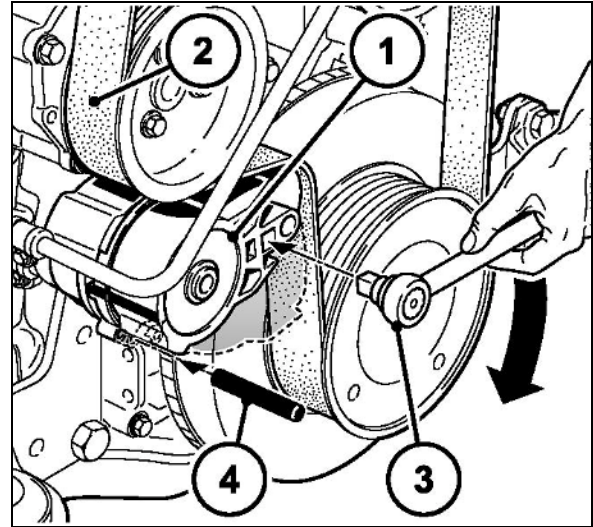

Fig. 150
1. Press the tensioning roller (Fig. 150/1) using a socket (Fig. 150/3) in the direction of the arrow until a Ø6 mm retention pin (Fig. 150/4) can be fixed in the assembly bore.
Now the ribbed V-belt (Fig. 150/2) is free of tension.
2. First remove the ribbed V-belt (Fig. 150/2) from the smallest roller or from the tensioning roller.
4. Apply a new ribbed V-belt (Fig. 150/2).
6. Retension the ribbed V-belt using the tensioning rollers and socket (Fig. 150/3). Check if the ribbed V-belt is fitted correctly in its guide.